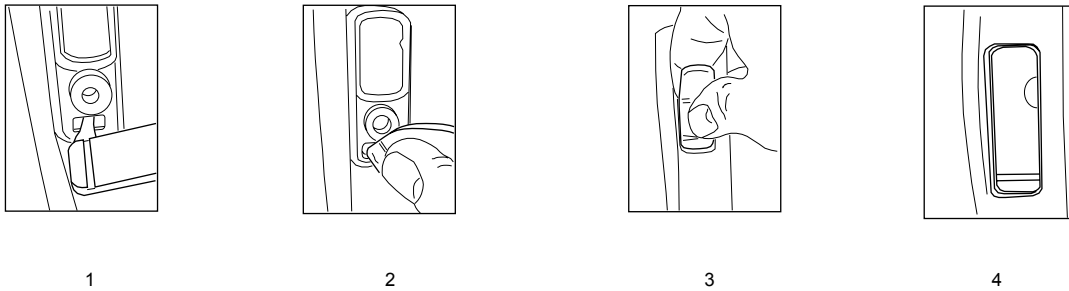

Figure 8-9. Dust Cap Re-assembly
1. Insert the tail of the dust cap into the bottom hole of the audio jacks housing opening (Figure 8-9).